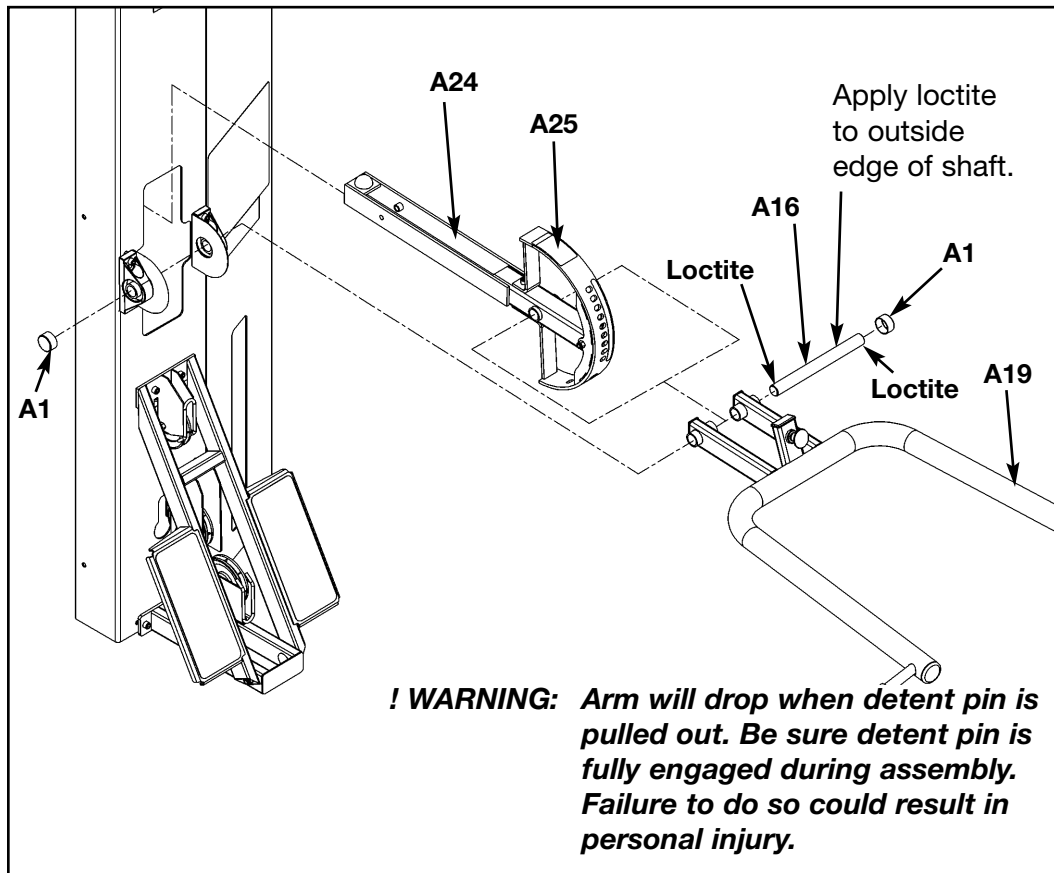

Figure 13
- F. With an assistant, carefully place pivot arm (#A24) detent plate (#A25) through slot in column, then align pressing arm (#A19) into place and slide shaft (#A16) through pillow block bearing, pressing arm, pivot arm and to the other side through pivot arm, pressing arm and pillow block bearing. See Figure 13.